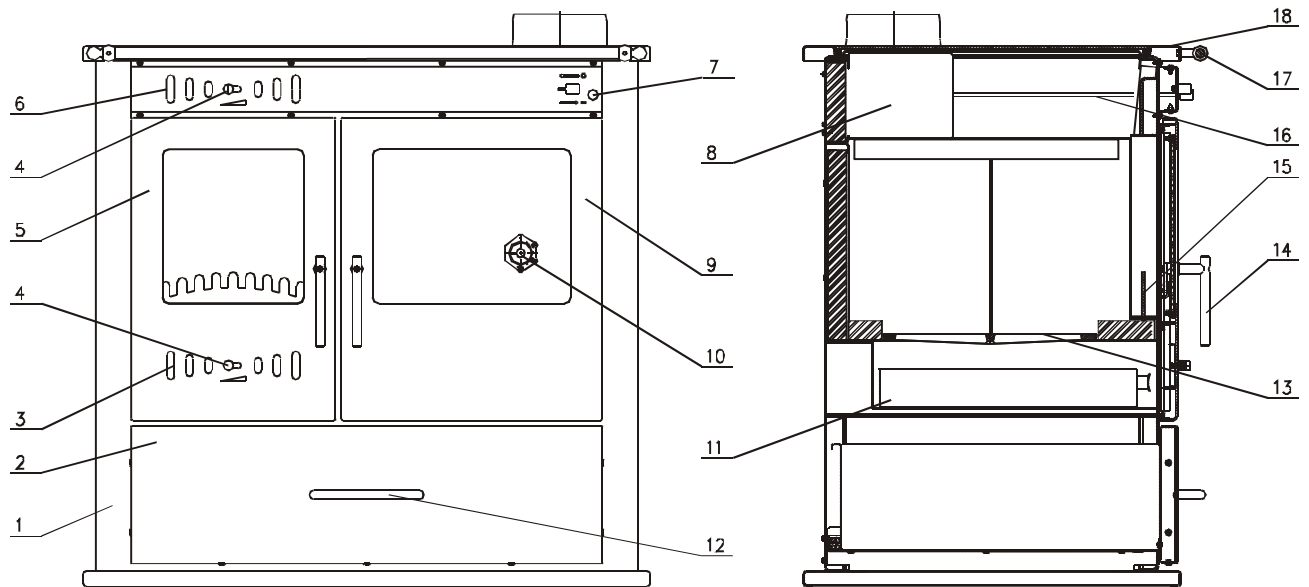
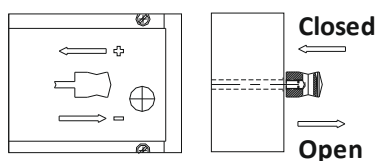

Figure 2
Figure 3
If you wish to heat up the oven, it is necessary to have good fire in the combustion chamber and the flap should be closed (Figure.3). On the oven door is installed temperature gauge (Figure.2, position 10), which helps to observe the right temperature.
The primary air is required for the quick start of the fire. The primary air passes through the ash pan, the bottom grate and goes into the firebox. Adjusting the quantity of the primary air supply during the burning process is made with air regulator (figure 2, position 3).
Secondary air provides to the fire the required quantity of oxygen for combustion and assists for the better combustion of the fuel. The quantity of the secondary air is adjusted through the regulator (figure 2, position 6) placed at the front part of the cooker. While the appliance is working, the secondary air regulator ensures control over the combustion process both qualitatively and quantitatively.
Flap for ignition (Figure.2, position.8).
The cooker is equipped with flap to make the ignition of the cold cooker easier (Figure 2, position 8). By pulling the handle (position 7) of the lever, the flap is opened (position 16). This ensures direct connection between the fire chamber and the chimney. When the fire in the combustion chamber is stabilized the flap should be closed. The cooker is designed to work at nominal heat output with closed flap.
Marking of the ignition flap (Figure 3):
- The regulators for primary and secondary air control and the flap must be opened (figure 3 and 6).